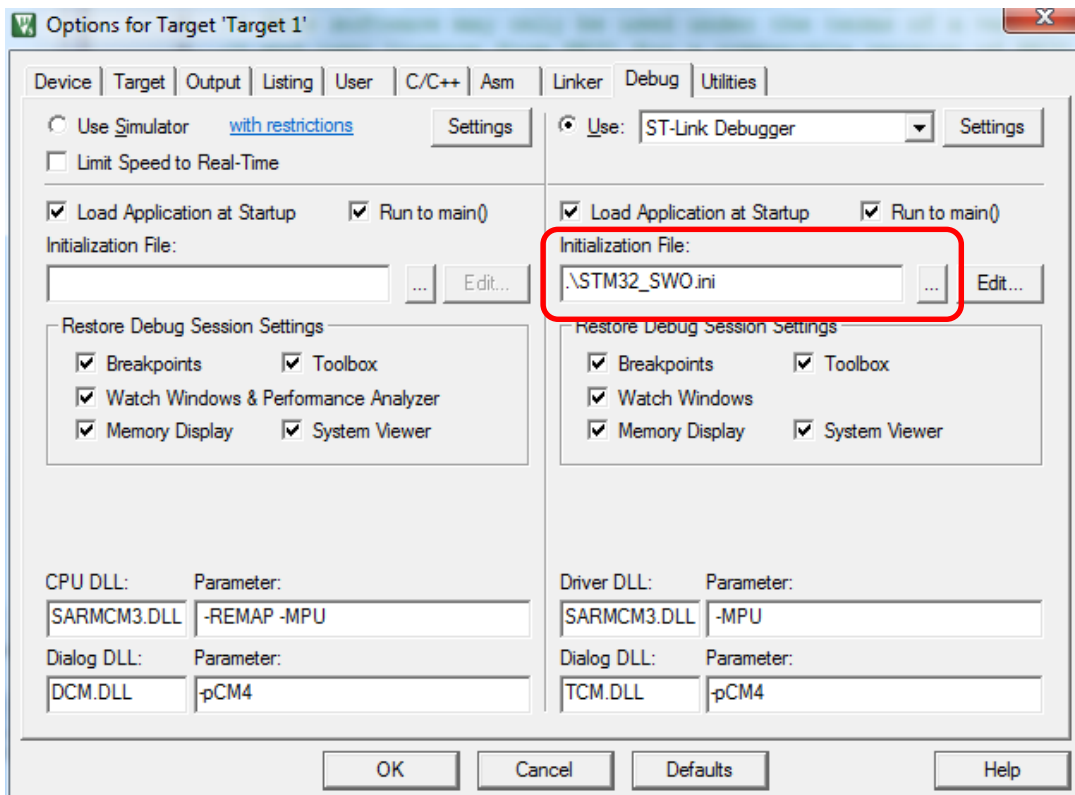

Figure 6. Debug initialization file configures SWV for the logic analyzer.
3. Create a debug initialization file (ex. **STM32_SWO.ini**) containing the following lines, or add them to an existing debug initialization file. Enter that file name in the Debug tab as shown in Figure 6. This configures the STM32 SWV module and default is for SWV. Click OK to return to the main menu.